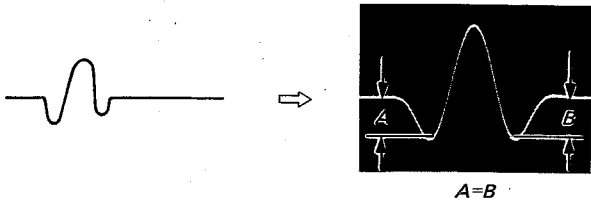

Fig. 18-2
3. Adjust RV1 of BB board so that the output waveform to the same as shown in Fig. 18-2.